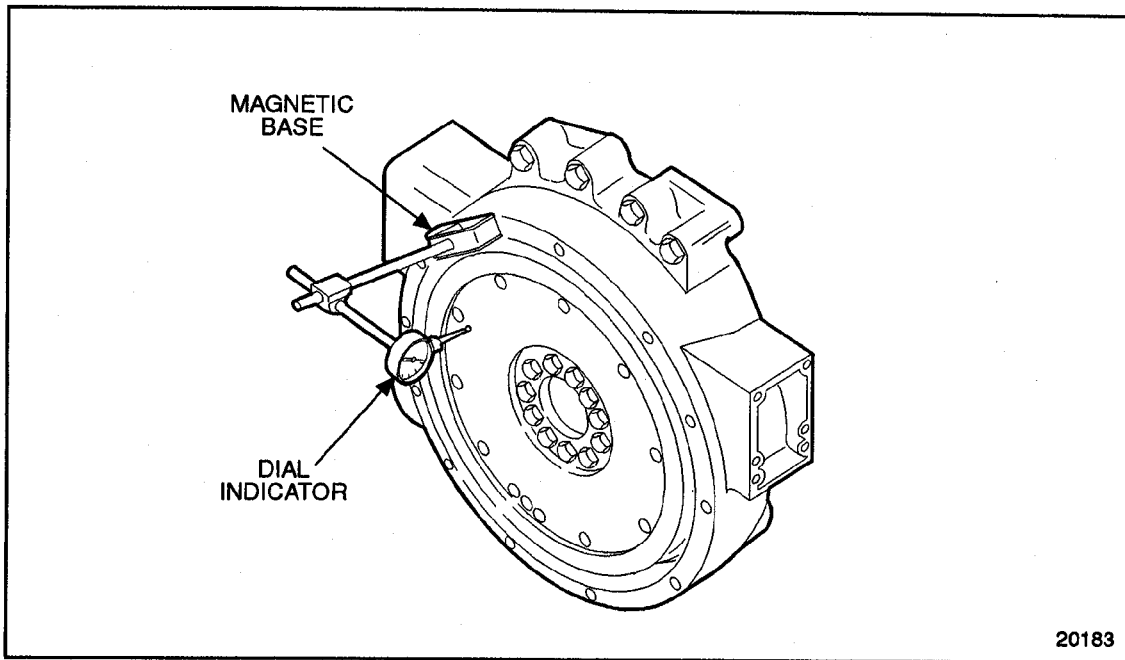

Figure 1-228 Measuring Flywheel Run-out
11. Mount a dial indicator with a magnetic base on the flywheel housing. See Figure 1-228.